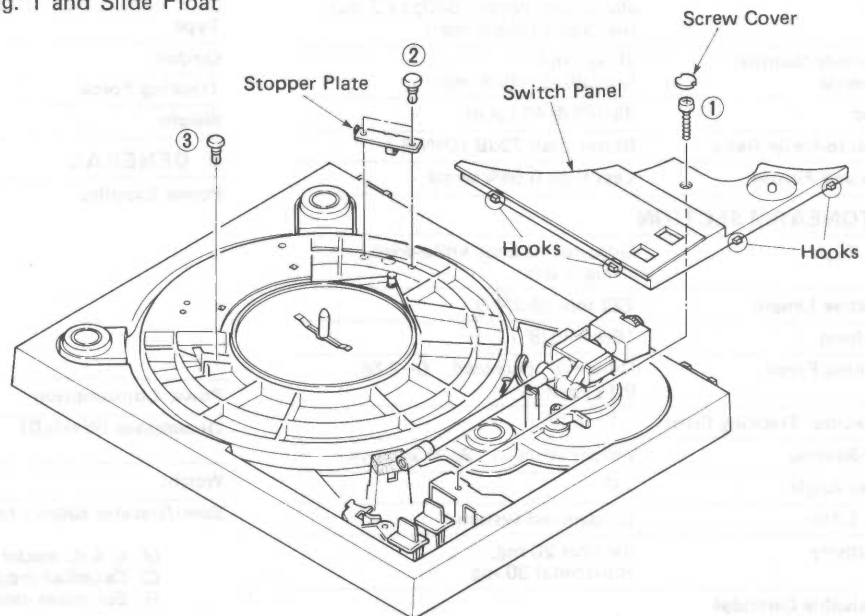

Fig. 1
- b. Remove screw ( ① ) in Fig. 1.
- c. Release 4 hooks in Fig. 1, and then remove the Switch Panel.
- d. Remove 2 plastic rivet ( ② ) in Fig. 1, and remove the Stopper Plate.
- e. Remove plastic rivet ( ③ ) in Fig. 1 and Slide Float Stopper inside.